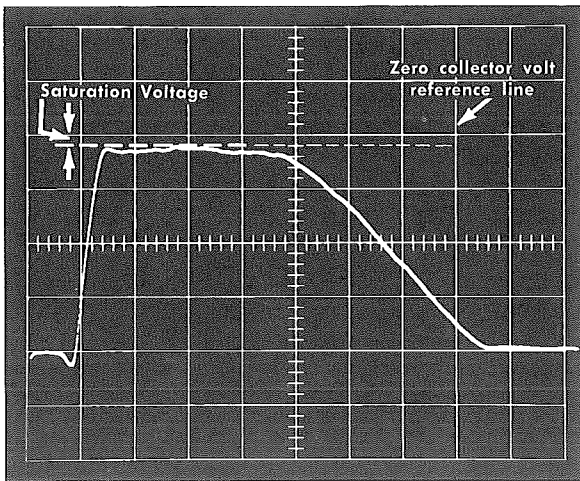

Fig. 3-9. An oscilloscope display used to measure saturation voltage.
4. Turn pulse generator on. Set Type 290 POWER/POLARITY switch to NPN or PNP (depending on type of transistor under test) and set oscilloscope triggering controls for a display similar to that shown in Fig. 3-9. Use this display to measure saturation voltage of the transistor.